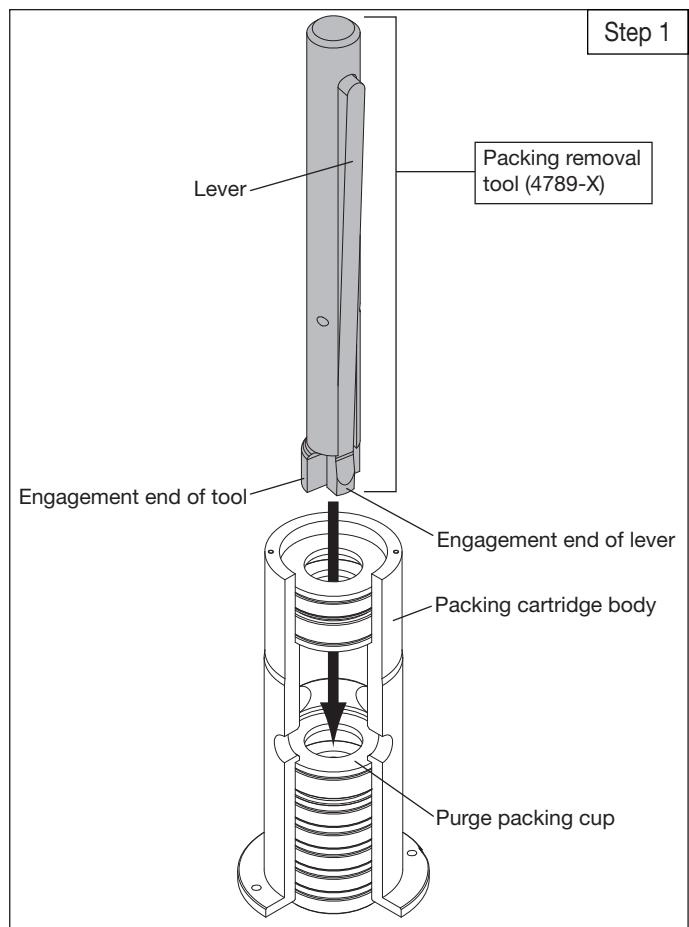

Figure 5.6A: Packing disassembly
- b. If the packing components are not easily removable, it may be necessary to use Corken Packing Removal Tool 4789-X. Referring to figure 5.6A, orient the packing cartridge body so that the open end (cylinder side) faces down, and align the tool with the center opening of the packing cartridge.